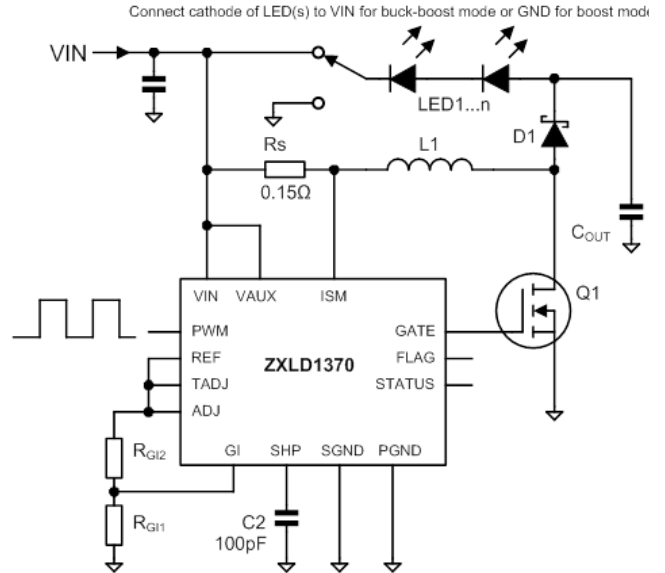

Figure 23 Boost and Buck-Boost Configuration
b) Boost and Buck-Boost Modes – the most simple boost/buck-boost circuit is shown in Figure 23
The average current in the LED, I_{LED} , is always less than I_{RS} . The feedback control loop adjusts the switch duty cycle, D, to achieve a set point at the sense resistor. This controls I_{RS} . During the interval t_{OFF} , the coil current flows through D1 and the LED load. During t_{ON} , the coil current flows through Q1, not the LEDs. Therefore the set point is modified by D using a gating function to control I_{LED} indirectly. In order to compensate internally for the effect of the gating function, a control factor, GI_ADJ is used. GI_ADJ is set by a pair of external resistors, R_{G1} and R_{G2} (Figure 23). This allows the sense voltage to be adjusted to an optimum level for power efficiency without significant error in the LED controlled current.